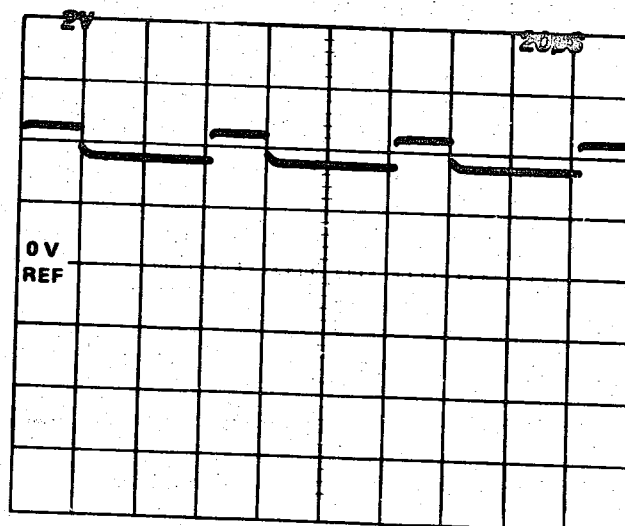

Fig. 6-8. Probe to Pin 3 of U470.
15. Move the probe to Pin 3 of U470 on the Horizontal board. Trigger the test oscilloscope for a waveform similar to that shown in Fig. 6-8.